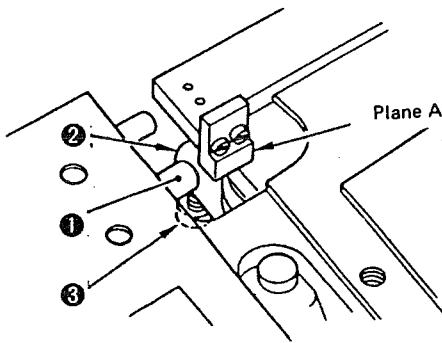

Fig. 9
Fit looper mounting base ② in looper shaft ①, and set the timing gauge on the machine bed as illustrated in Fig. 9.